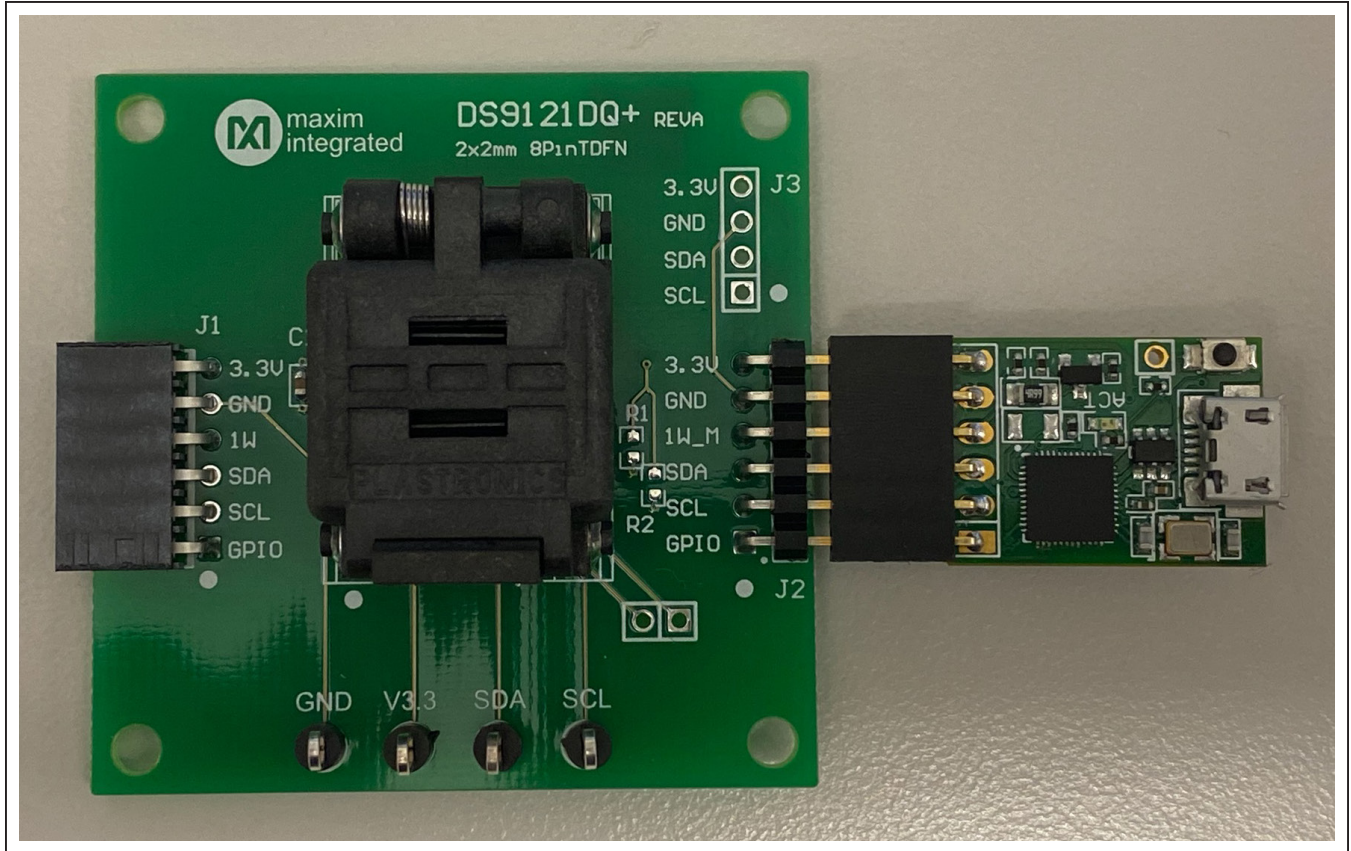
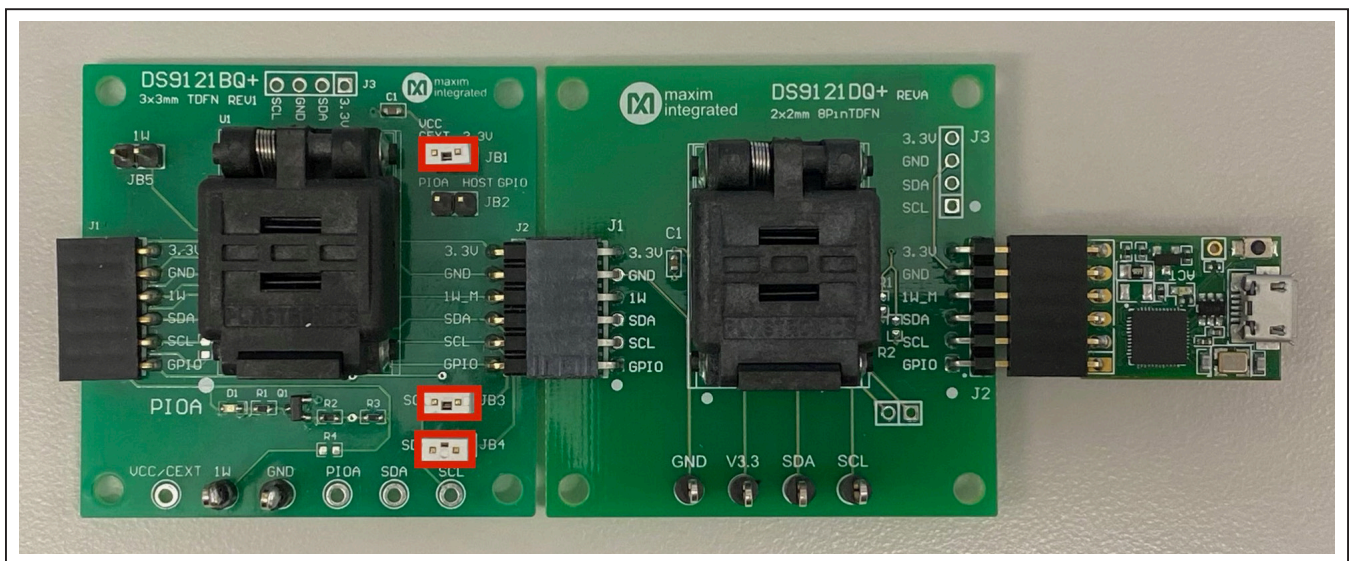

Figure 2. DS28C16 Connected to DS9481P-300#
Figure 3. DS2477 Connected to DS9481P-300# and DS28C16
- 5) Connect the DS9121DQ+ to the DS9481P-300# per Figure 2.
- 7) Configure the second DS9121BQ+ socket board for DS2477 by setting jumpers JB1, JB3, and JB4 per Figure 3.
- 8) For select flows in the software that use the DS2477 coprocessor, connect both DS9121DQ+ and DS9121BQ+ boards to the DS9481P-300# as shown in Figure 3. For all other flow, connect only the DS9121DQ+ board containing a DS28C16 to the DS9481P-300# as shown in Figure 2.